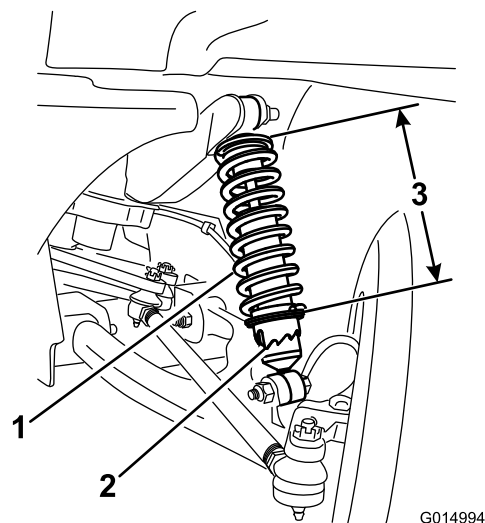

Figure 45
3. Using tool TORO 6010, rotate the collar on the shock absorber to change the length of the spring (Figure 45).